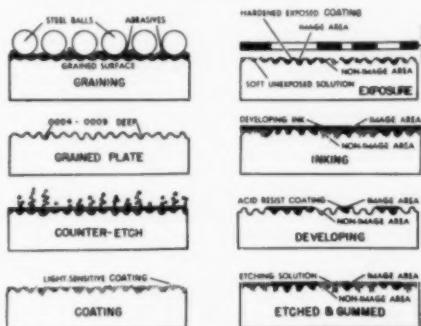

Figure 5. Albumin Process. Graphical representation of the steps involved in the preparation of an albumin plate.
**ALBUMIN:** The surface plate process is carried out as illustrated in Figure 5. The coating, generally bichromated albumin or a modified casein, is exposed through a line or halftone negative to a high intensity light source such as a white flame carbon arc. It is then coated with a dilute greasy ink known as developing ink, and developed or cleared in plain water or a very dilute alkaline solution. The development process removes the unexposed coating from the non-printing areas of the plate. Thorough development and clearing produces a plate on which the non-printing areas are apparently bare metal\* and the image areas consist of tanned albumin covered with a greasy ink.